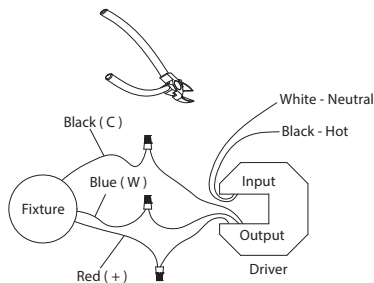

Fig. 4
10. Mount the canopy against the mounting plate. Secure fixture to the mounting plate using the mounting screws (C).
11. For sloped ceiling applications, rotate the swivel at the top of the rods to ensure luminaire is aiming down (Fig.4).